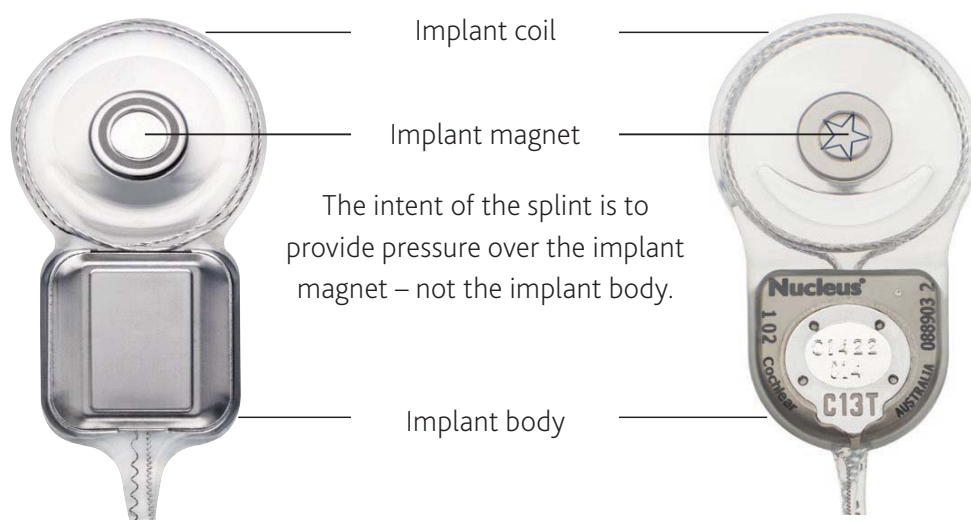

Figure 3: Location of the implant magnet on CI500 Series (left side) and CI24RE Series (right side) implants
- Touch - gently feel around the implant site to locate the position of the implant coil. The implant is comprised of two components; the round implant coil and the implant body. See *Figure 3* below. The implant magnet will be at the centre of the implant coil.
3. Use a splint from the MRI Kit and centre it over the implant magnet site (as marked) against the skin. Ensure the splint is held in place over the implant magnet. See *Figure 3* below for the implant magnet location. You may need the assistance of another person to hold the splint in place while you bandage. Otherwise, use the supplied tape to maintain the splint position prior to bandaging.